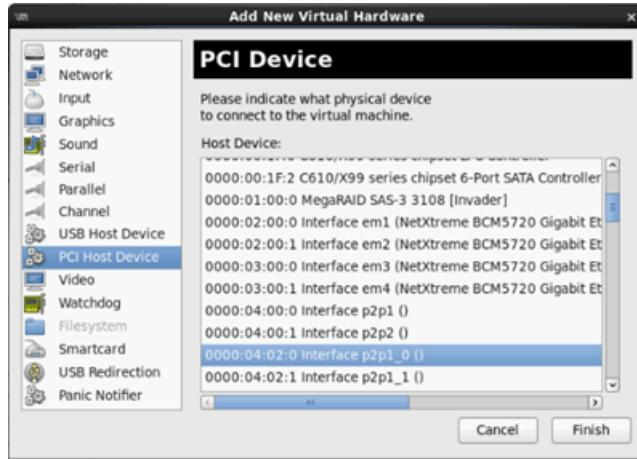

Figure 11-14. Add New Virtual Hardware
- b. In the left pane of the Add New Virtual Hardware dialog box (Figure 11-14), click **PCI Host Device**.